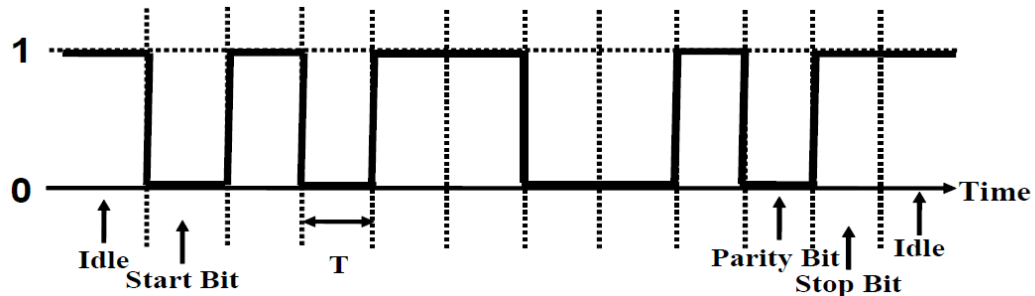

Fig. 2
2) **Fig. 2** shows the logical waveform of an asynchronous data frame.
Answer the following question with reference to **Fig. 2**:
- The value of **T** in **Fig. 2**.
- Assume the baud rate of the transmitter is 4800, but the baud rate of the receiver is configured as 9600. Based on **Fig. 2**, determine, if any, the ASCII character(s) that will be received.
- Redraw the waveform in **Fig. 2** if the MAX233 line driver is used to produce a RS-232 compatible signal. You can assume the MAX233 produces signals of ± 15 volts.